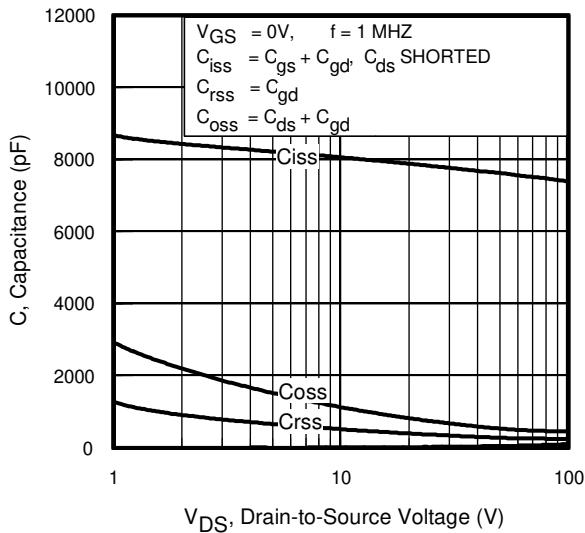

Fig 5. Typical Capacitance vs. Drain-to-Source Voltage
| C oss eff. (TR) | Effective Output Capacitance (Time Related) Ⓢ   | —    | 720.1 | —    |       | V GS = 0V, V DS = 0V to 80V Ⓢ , See Fig. 5 |